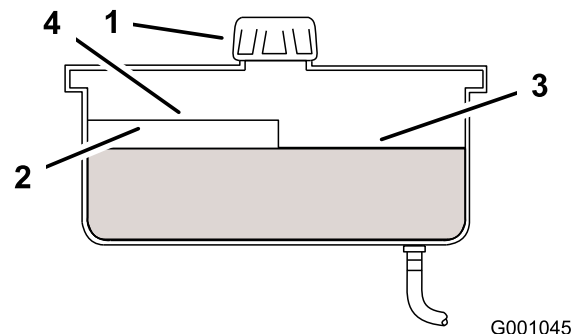

Figure 65
2. Clean the area around filler neck of hydraulic tank (Figure 65).
3. Remove the cap from the filler neck. Look inside to check if there is fluid in the reservoir (Figure 65).
Note: The fluid level should be to the top of the hot level of the baffle, when the fluid is hot (Figure 65).